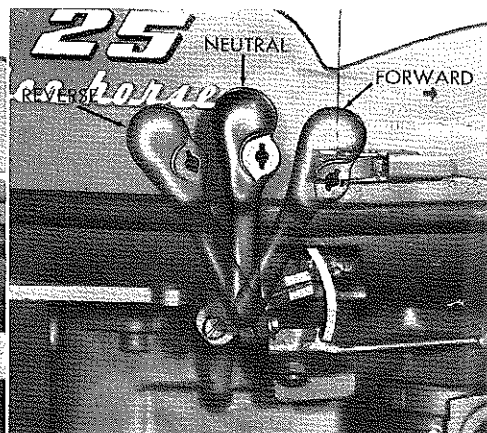

Figure 8
Shifting is accomplished by an arrangement of gears in the gearcase through linkage with the shifting lever conveniently located for ease of operation (Fig. 8).
2. Move gear shift lever to center or "neutral" position (Fig. 8).